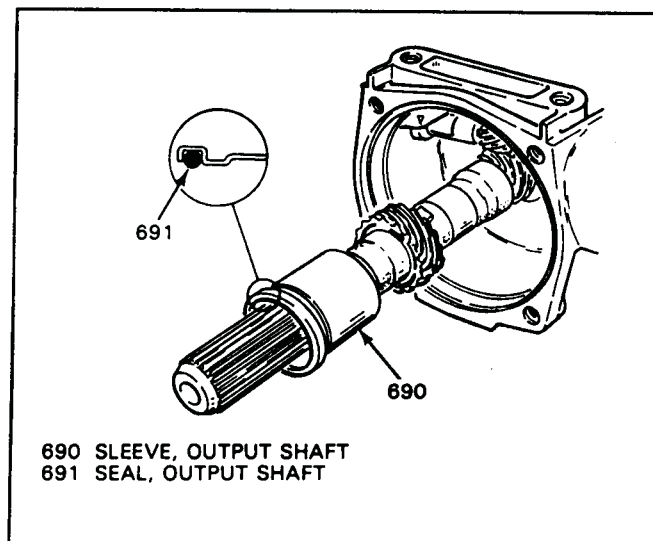
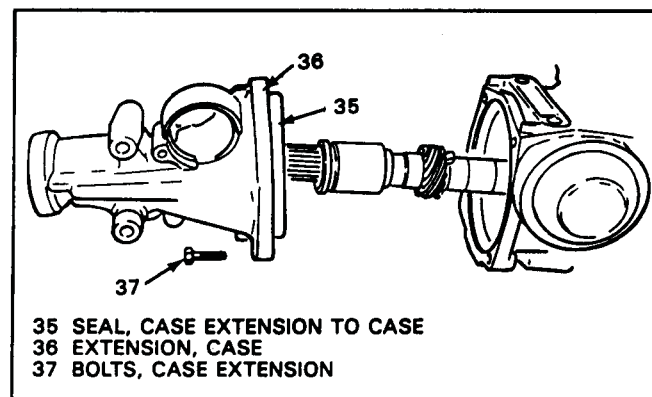

Figure 210
Figure 211
4. Install new "O" ring into the output shaft sleeve, and install onto the output shaft as shown in Figure 210. NOTE: NOT USED ON ALL MODELS. DO NOT PUSH THE SLEEVE PAST THE MACHINED SURFACE ON THE OUTPUT SHAFT. (SEE FIGURE 211).
5. Install new square cut seal onto the extension housing (See Figure 211).
7. Install extension housing on the case so the speedometer hole is on the same side of case as governor cover, shown in Figure 211.